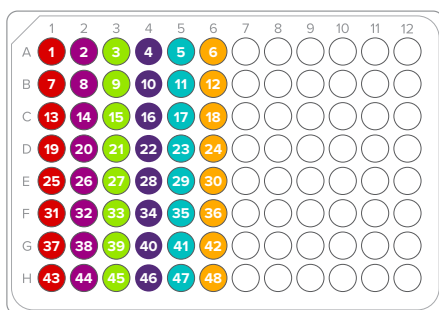

Figure 2. Layout of 20X assay pools and sample mixes
- In a DNA-free hood, combine the following components in wells of a new PCR plate or in 8-well strips according to the layout shown (see Figure 2):
- In a DNA sample hood, pipet the following components into each well of the new 96-well plate according to the layout shown in Figure 2. Use an 8-channel pipette to transfer the sample pre-mix from the 8-well strip.